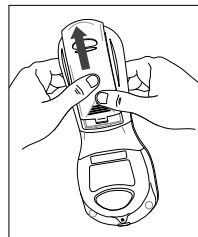

Figure 2
4. When slid as far as possible, lift the cover up and away from the meter. (Fig. 2, Fig. 3)